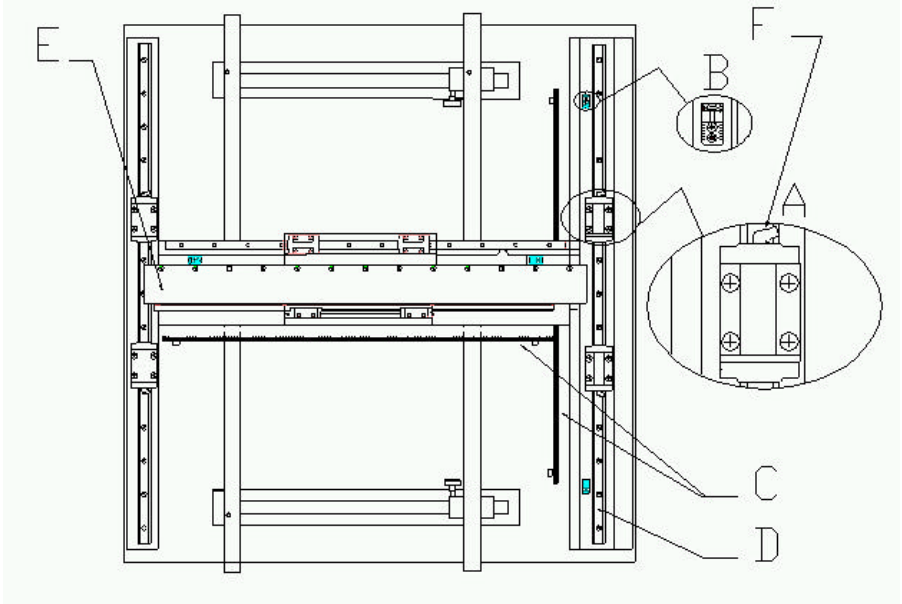

Fig 4.2 - X-Y gantry schematic
4. Ensure the bearings are kept free from dust, loose particles and moisture, Fig 4.2 (D).
5. Ensure the magnetic platens are free from debris, Fig 4.2 (E).
7. Visually examine the encoder, Fig 4.2 (C), on each axis to ensure that there are no scratches, grease or dirt. If some grease or dirt needs to be removed, do this with a very fine lint free cloth only. **Take care not to scratch gold foil as this will greatly affect the table's accuracy.**
8. Check the small home marker contacts and end limits are intact; Figure 4.2 (C), (B). Ensure that they are free from dirt and grease.
8. Remove any dirty or dried lubricant from the bearing guides. Figure 4.2 (D). Use a clean cloth with along the rails to clean the bearing guides. A cotton swab soaked in solvent will suffice to remove stubborn debris.
10. Lubricate the four LMG bearing trucks on each stage, Figure 4.2 (A). (See note on lubricant overleaf). Use a grease gun with a grease nipple (type UU or SS), Figure 4.2 (F).